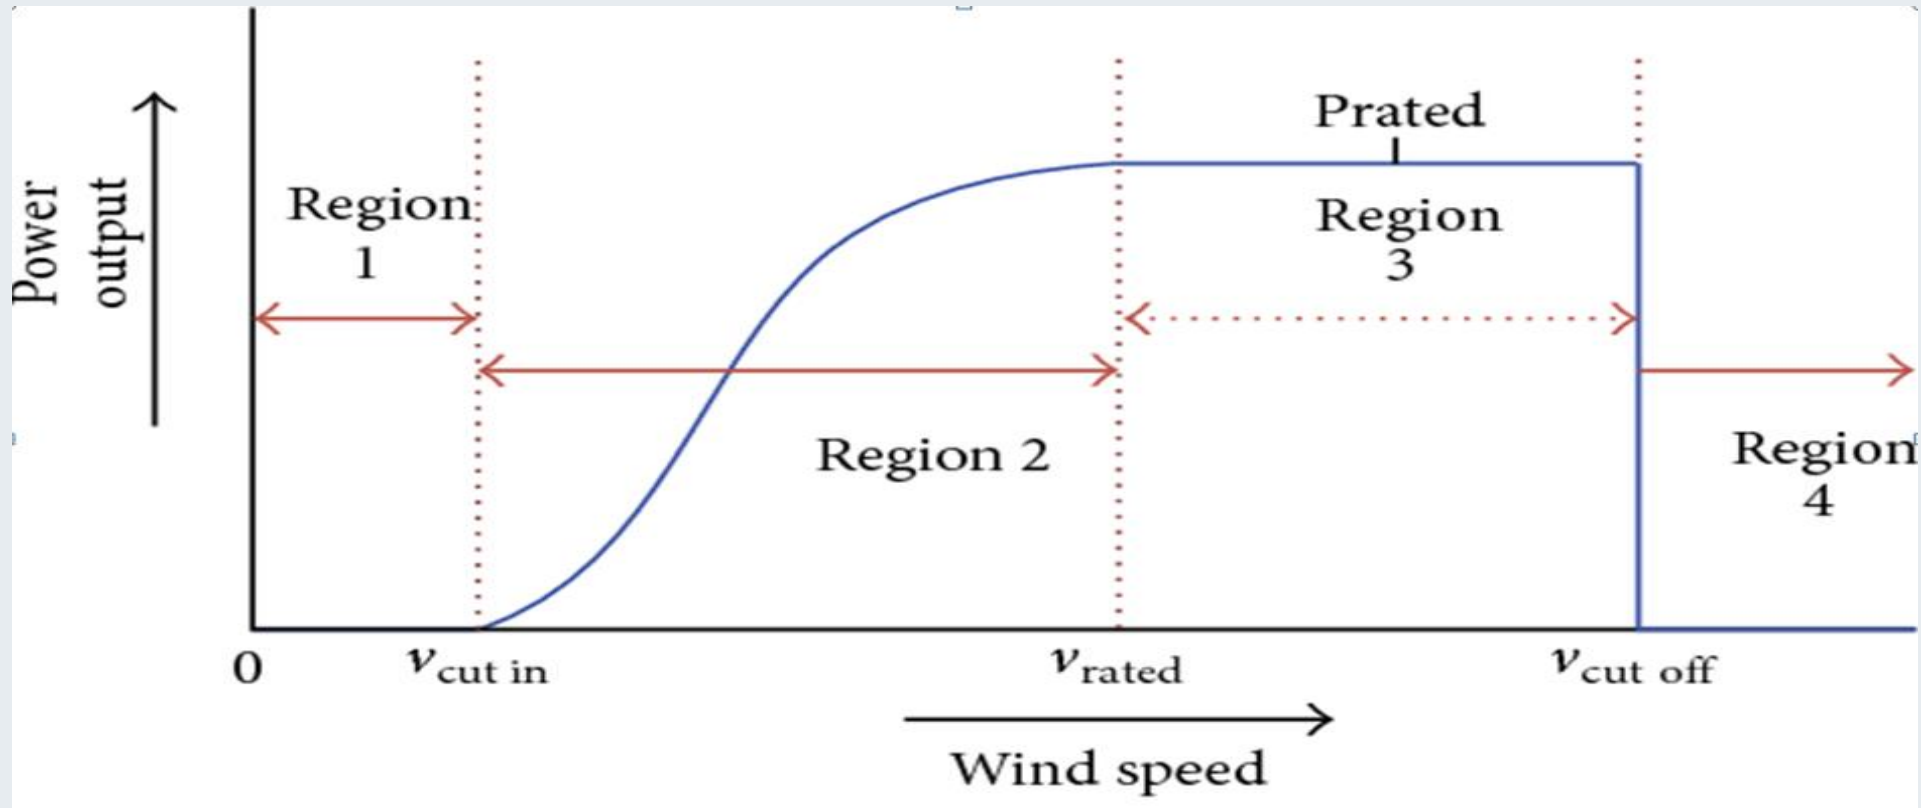

Figure 10. The power curve. source :[www.mdpi.com](http://www.mdpi.com)
- ❖ The operating characteristics of wind turbine is presented in Fig.10